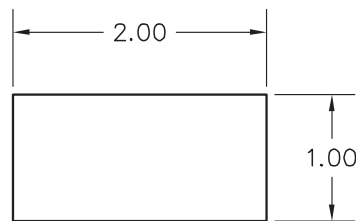

Fig. 12-6
2. Draw the rectangle shown in Fig. 12-6. Set the grid at 1 and snap at .5.